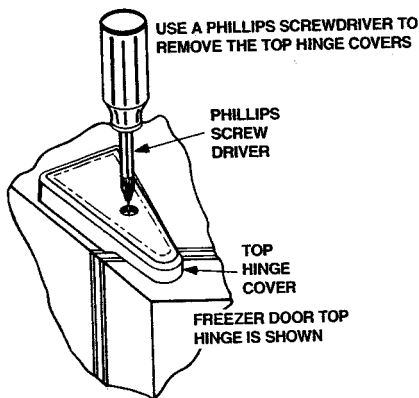

FIGURE 21
- 6. Remove the top hinge covers. See Figure 21.